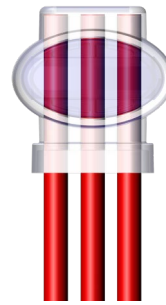

Figure 5a. CORRECT wire insertion with conductors inserted all the way to the end of the connector
1. Fully insert positive (red) OR negative (black) conductors into one Scotchlok connector. See Figures 5a and 5b for correct and incorrect insertion.